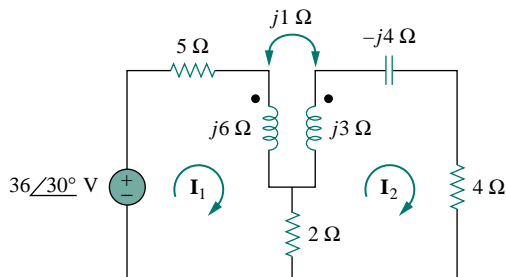

Figure 13.84 For Prob. 13.14.
- 13.14** Find \mathbf{I}_1 and \mathbf{I}_2 in the circuit of Fig. 13.84. Calculate the power absorbed by the $4\text{-}\Omega$ resistor.